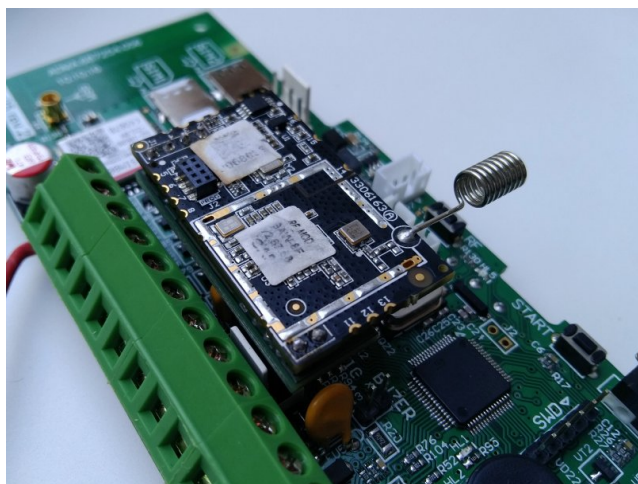

Figure 21. Radio module
- “Adapter L25-CROW rev.2” – to **X5 (RADIO)** connector on the Control Panel PCB, as shown in Figure 21;